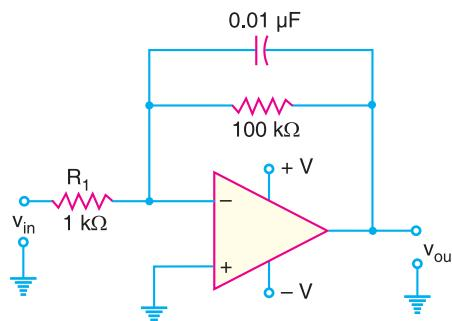

Fig. 25.85
**Example 25.51.** Determine the lower frequency limit (critical frequency) for the integrator circuit shown in Fig. 25.85.
**Solution.** The critical frequency for the integrator circuit shown in Fig. 25.85 is given by;